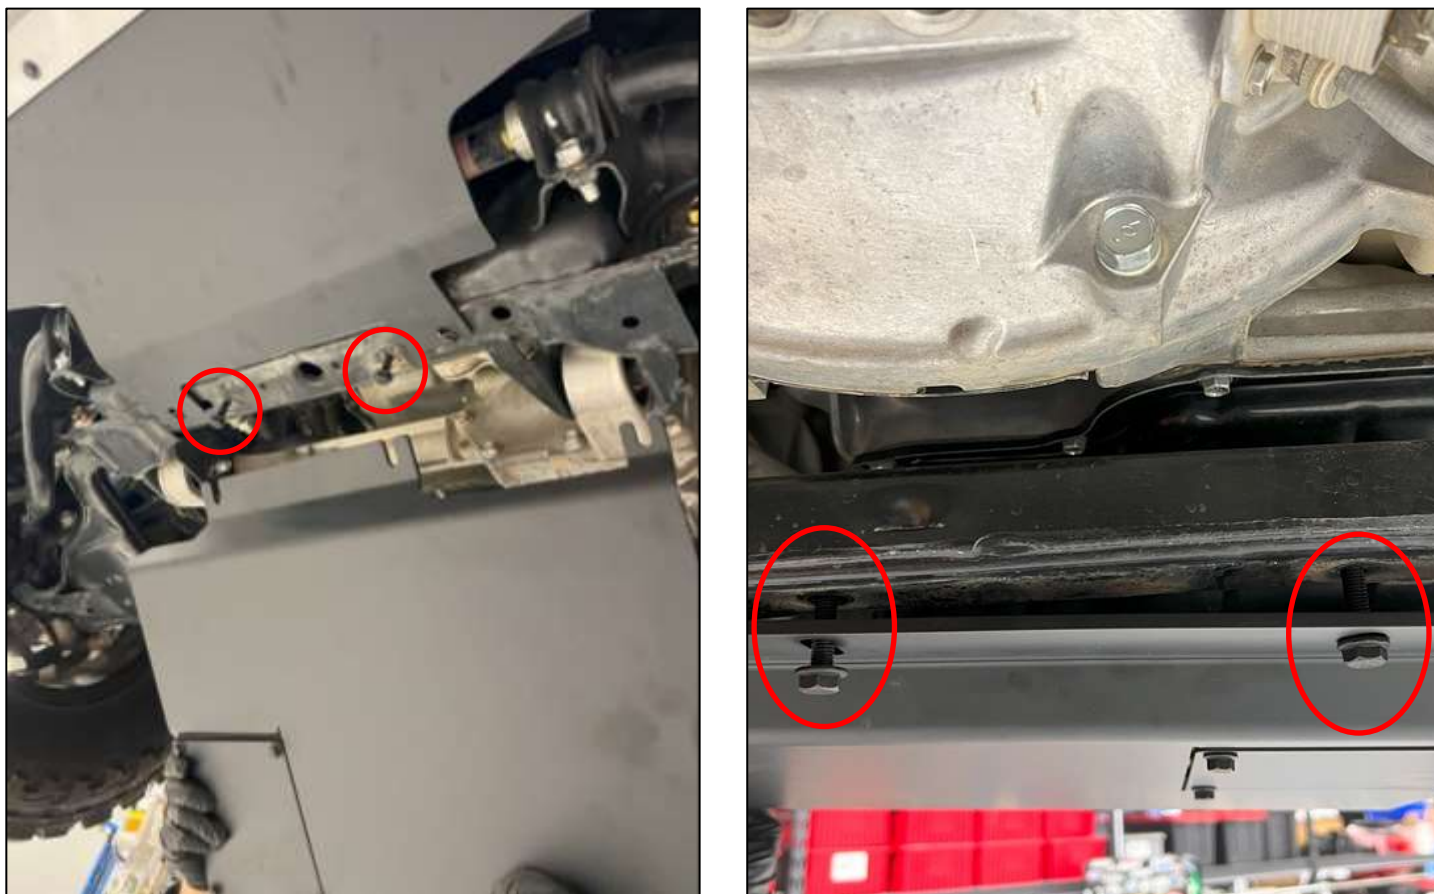

Figure 2
4. Locate the Z1 Skid Plate, all (5) five brackets, (8) eight M10 washers, and all (8) eight M10 x 25mm bolts.
5. Loosely install (2) two M8 bolts with a washer in the (2) two forward bolt holes that the OE Cover was attached to (circled below). Using the slots on the Z1 Skid Plate, slide it in place under the engine, swing the panel up, and loosely secure the rear of the skid plate with (2) M8 x 30mm bolts and washers, shown below in *Figure 2*.